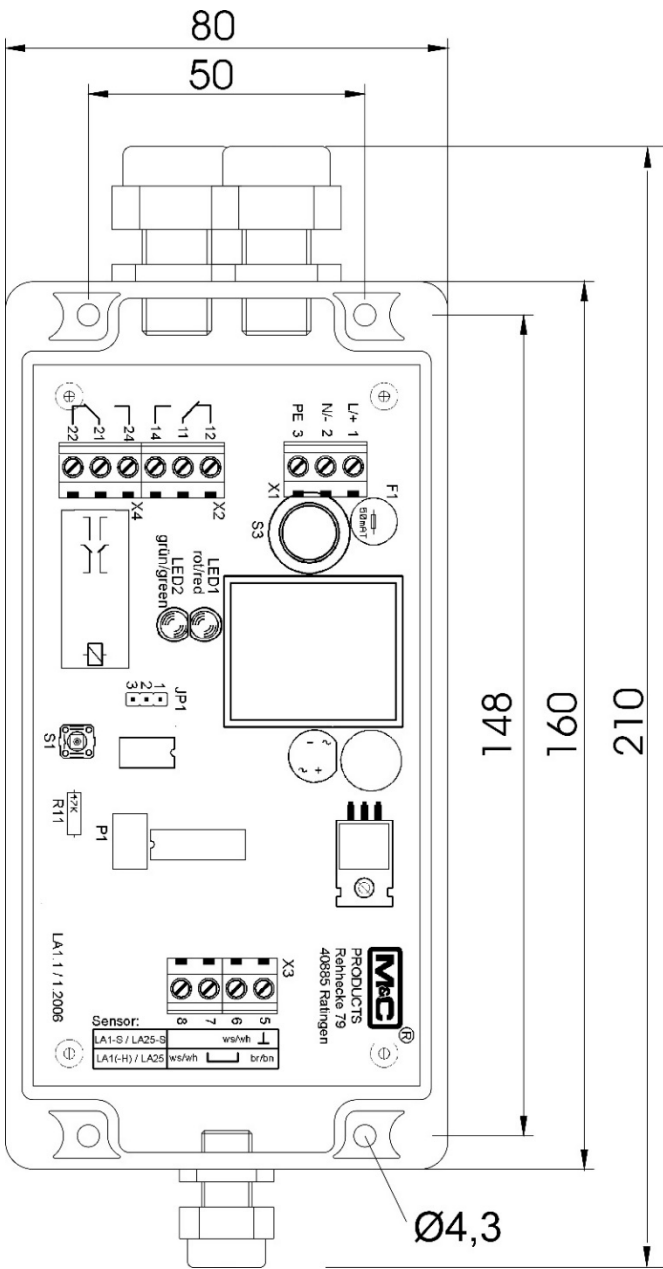

Figure 6 Electrical connection and dimensions LA1.1
- Jumper at JP1 from position 2-3 (no alarm memory function) to position 1-2 (see Figure 4 or Figure 6).